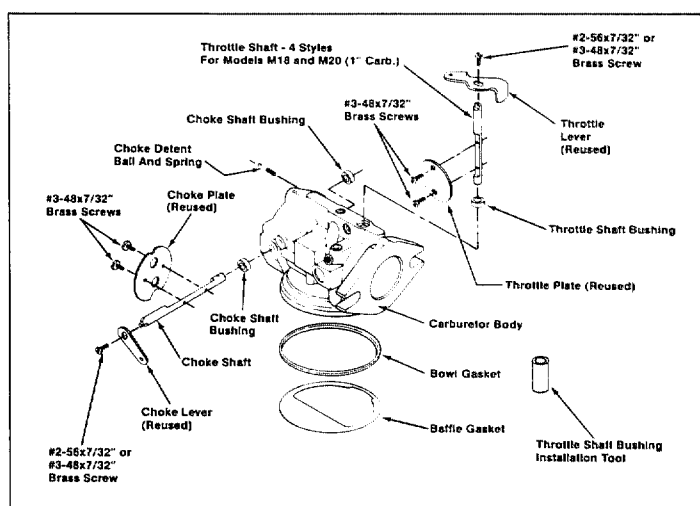

Figure 12. Throttle And Choke Shaft Replacement Kit
4. Further disassembly to remove the throttle and choke shafts is recommended only if these parts are to be replaced. (Figure 12)